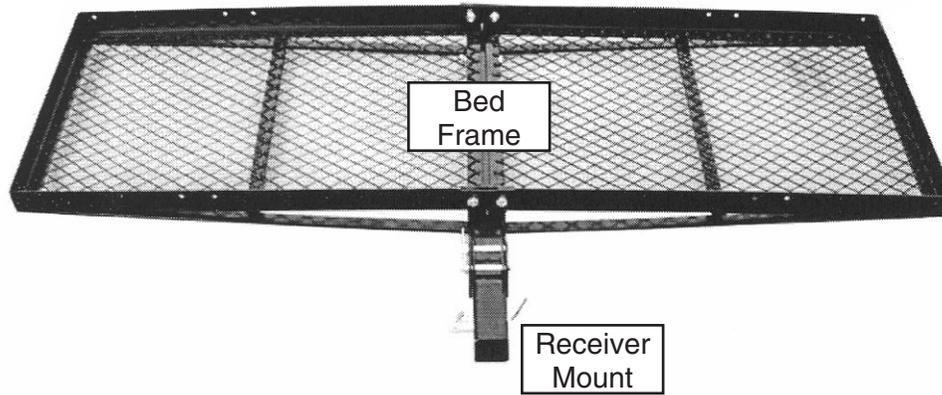

Figure 1. Model H6165 Cargo Carrier
2. Insert the receiver mount under the mesh screen of the bed frame and between the arched bed frame supports as shown in **Figure 1**.